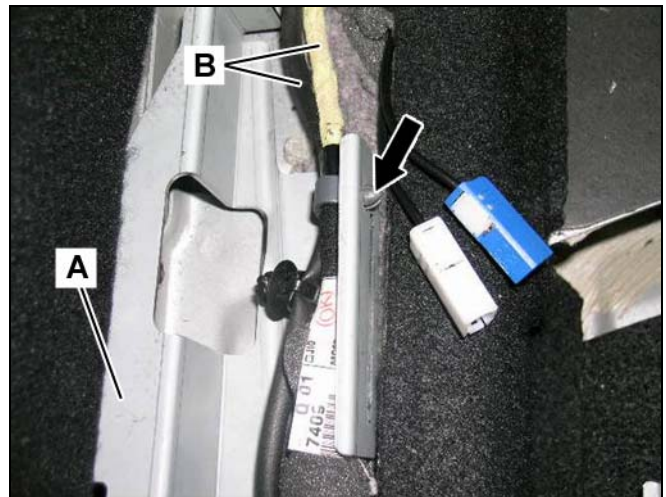

Figure 18
9. Fasten the MOST optical fiber harness and power supply cable (B, Figure 18) with a cable clip (Arrow, Figure 18) anchored in the hole in Part A of the SDARS bracket.